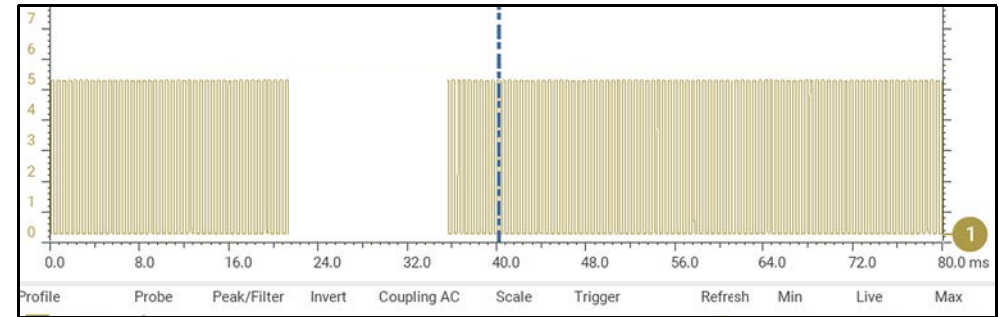

Figure 9-42
**3** - Zoom back in (this example is at 8X) to view more detail (Figure 9-42) in the area where the cursor was placed by the glitch.